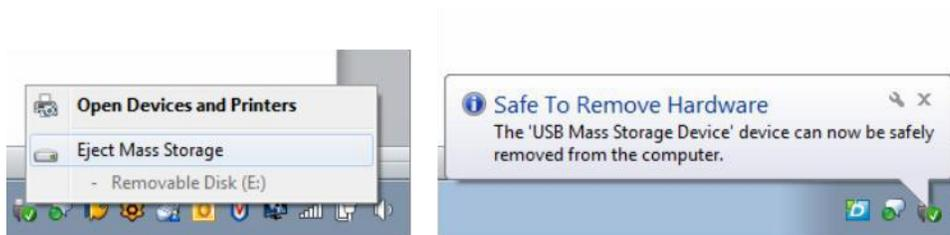

Figure 46: Safely removing the USB stick
12. Right click the USB stick icon in the System Tray or Notification Area. When the pop-up menu shown in Figure 46 appears, click “Eject Mass Storage.” Wait for the “Safe To Remove Hardware” notification to appear as shown before removing the USB stick from the computer.